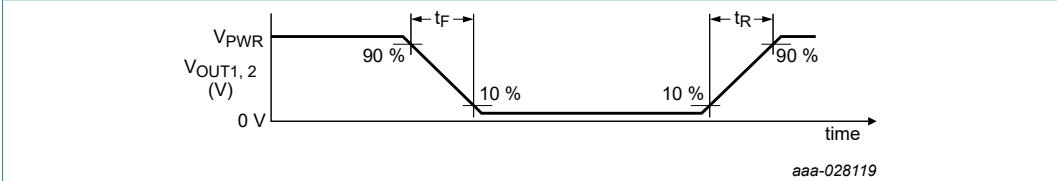

Figure 8. Output switching time
- [7] Rise time is from the 10 % to the 90 % level and fall time is from the 90 % to the 10 % level of the output signal. See Figure 8.